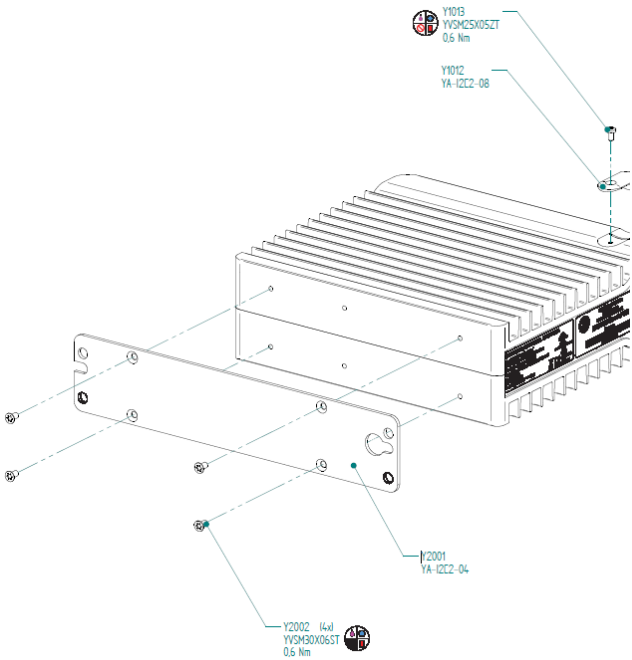

Figure 9: Panel-Mount Bracket Assembly CPE400
3. Install the panel-mount bracket as shown in Figure 9, using the four machine screws supplied with that bracket. Note that the closed eyelet is towards the top of the chassis.